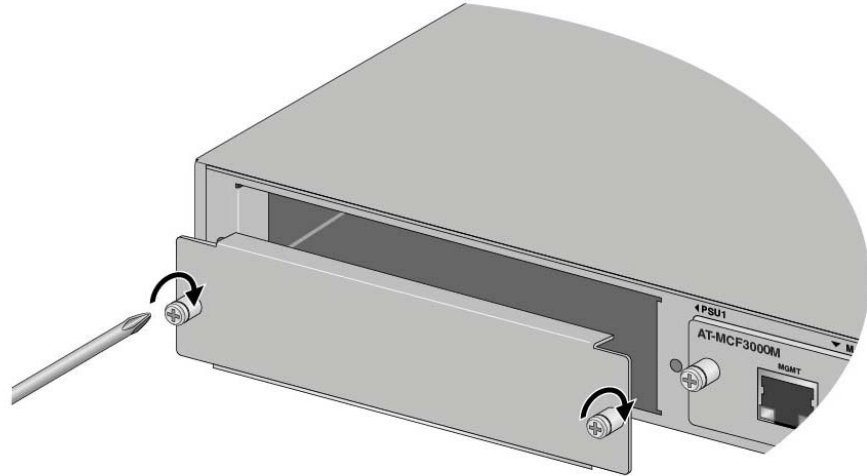

Figure 72. Installing the Blank Cover on the Power Supply Slot
8. If you are not installing a replacement power supply now, install the blank slot cover. Refer to Figure 72.
9. If you are not installing a replacement power supply now, install the blank slot cover. Refer to Figure 72 on page 112.